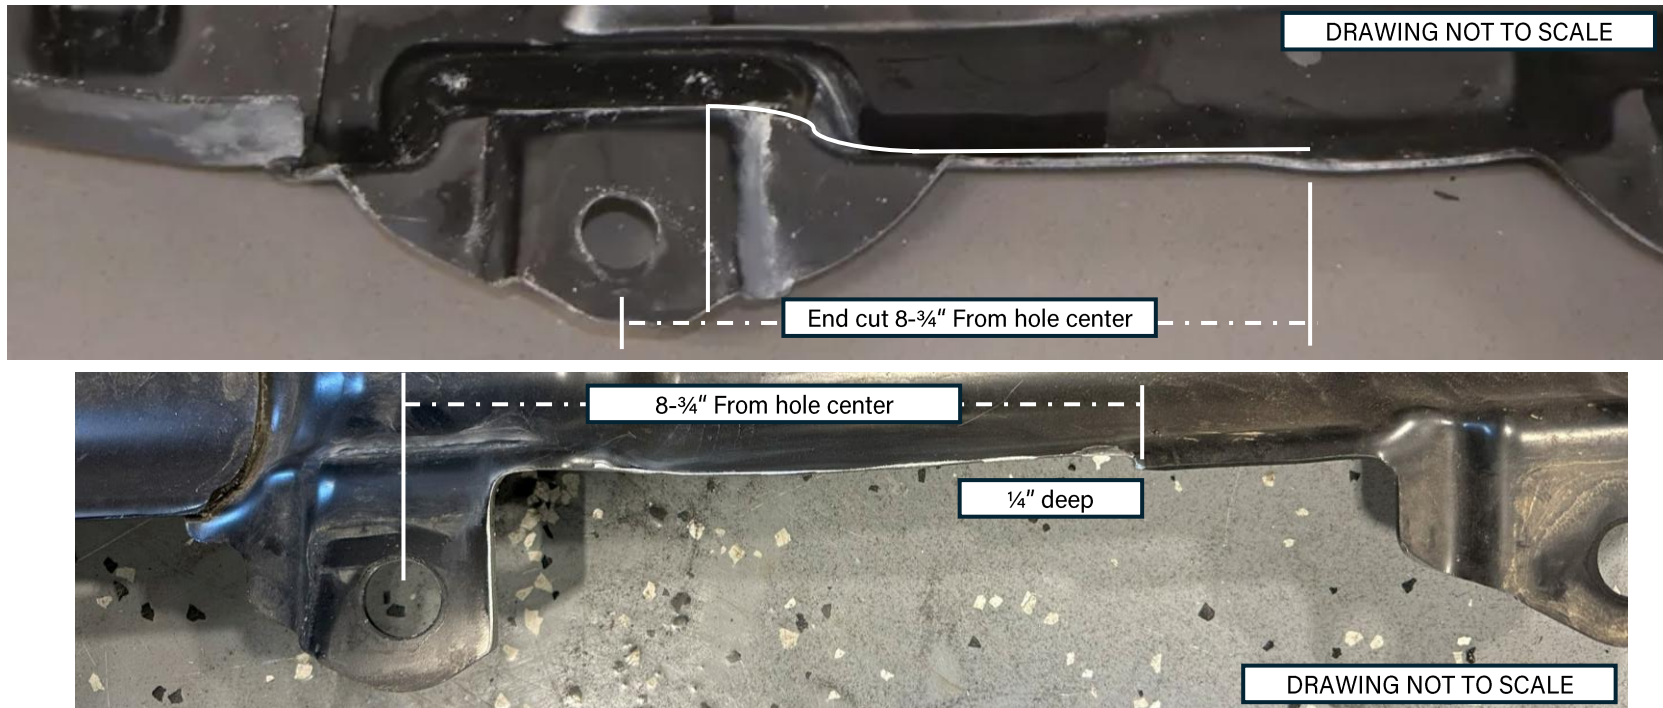

Figure 29: Rear-most gas tank skid plate mount before and after clearance cut
24. To accommodate the new frame brackets on the gas tank side, one of the gas tank mounts must be trimmed. Please see Figure 29 for a template on where to cut the rear-most frame rail mount on the tank. Use a cut-off wheel to make the cut. **REMOVE THE GAS TANK OUT OF THE SKID BEFORE CUTTING. Cut $\frac{1}{4}$ " deep, and $8\text{-}\frac{3}{4}$ " from the hole center.**